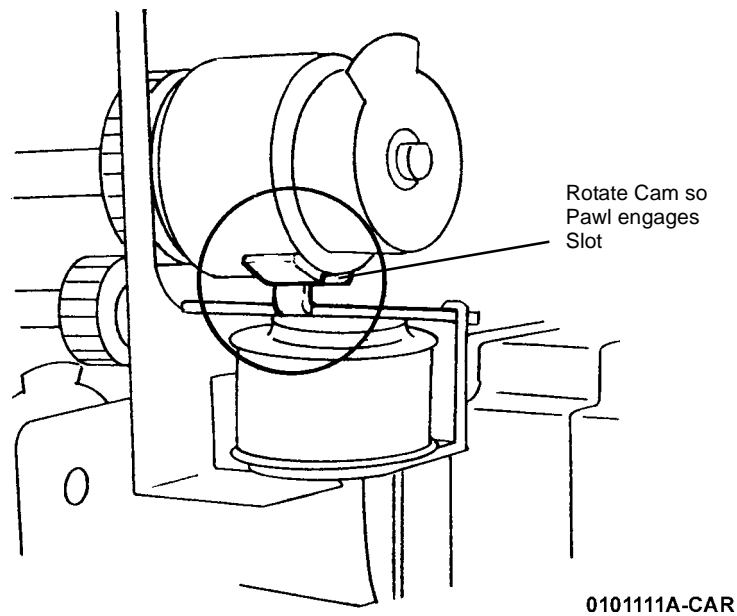

Figure 5 Engaging Pawl with Slot
- Engage the solenoid pawl (**Figure 5**).